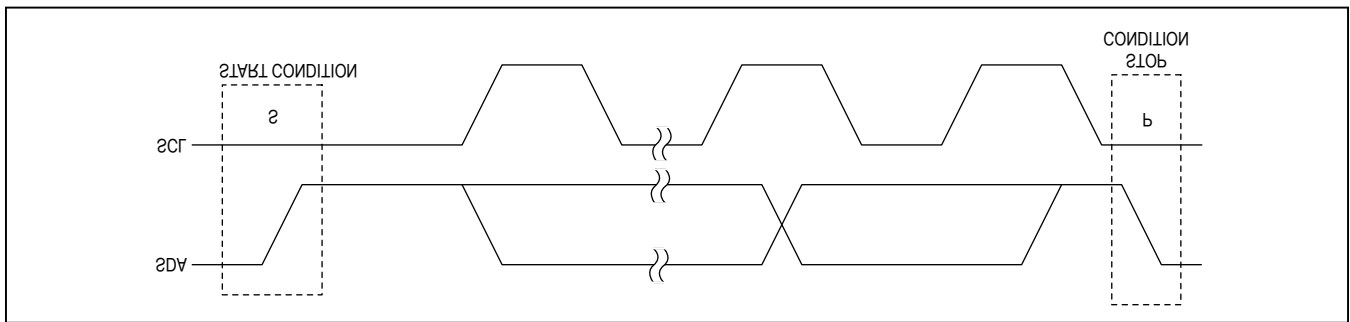
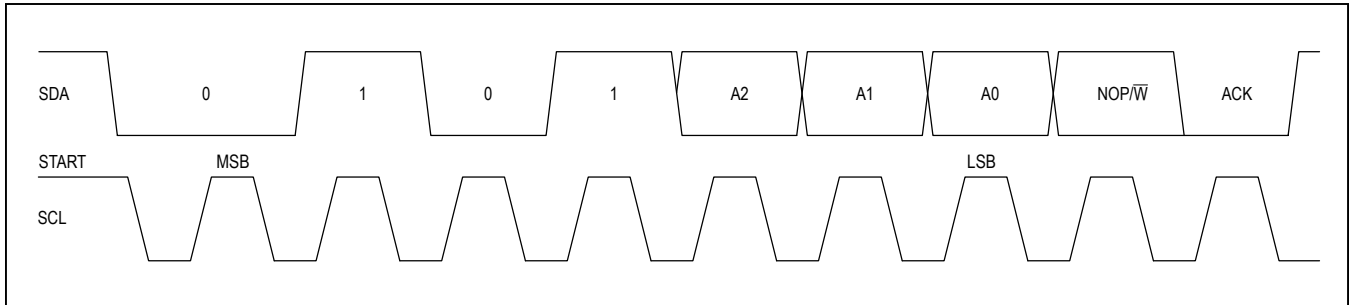

Figure 3. START and STOP Conditions
Figure 6. Slave Address
Each transmission consists of a START (S) condition (Figure 3) sent by a master, followed by the MAX5387 7-bit slave address plus the NOP/̄W bit (Figure 6), 1 command byte and 1 data byte, and finally a STOP (P) condition (Figure 3).
The MAX5387 includes a 7-bit slave address (Figure 6). The 8th bit following the 7th bit of the slave address is the NOP/ \bar{W} bit. Set the NOP/ \bar{W} bit low for a write command and high for a no-operation command. The device does not support readback.